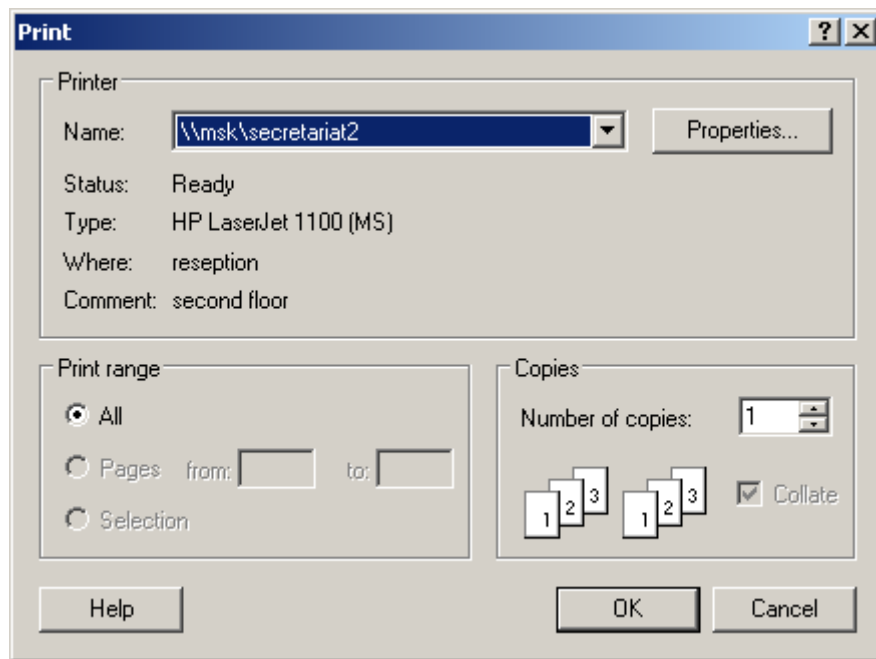

Figure 13.7.4-2
5. The Print dialog box will open. Select the printing parameters and click OK (Figure 13.7.4-2).